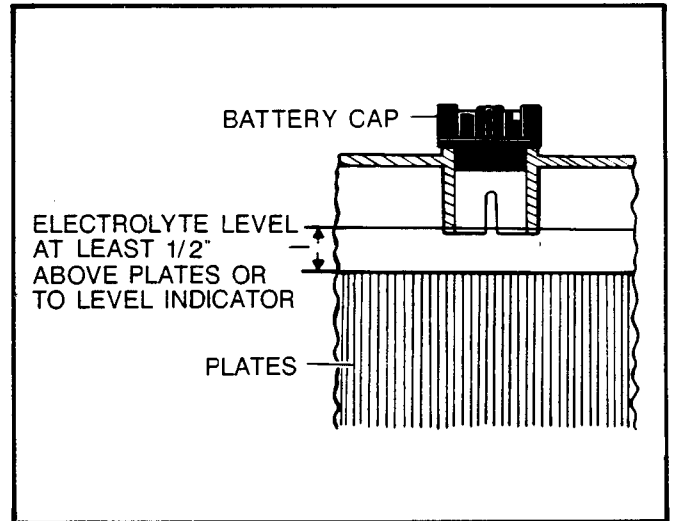

FIG. H-1 BATTERY ELECTROLYTE LEVEL
- o When adding water, do not overfill (Fig. H-1). Overfilling will cause a loss of acid from the electrolyte. Use distilled water when adding water to batteries. E-Z-GO strongly recommends that other water sources **not** be used since impurities can reduce the useful life of the batteries. If it is suspected that a suitable water